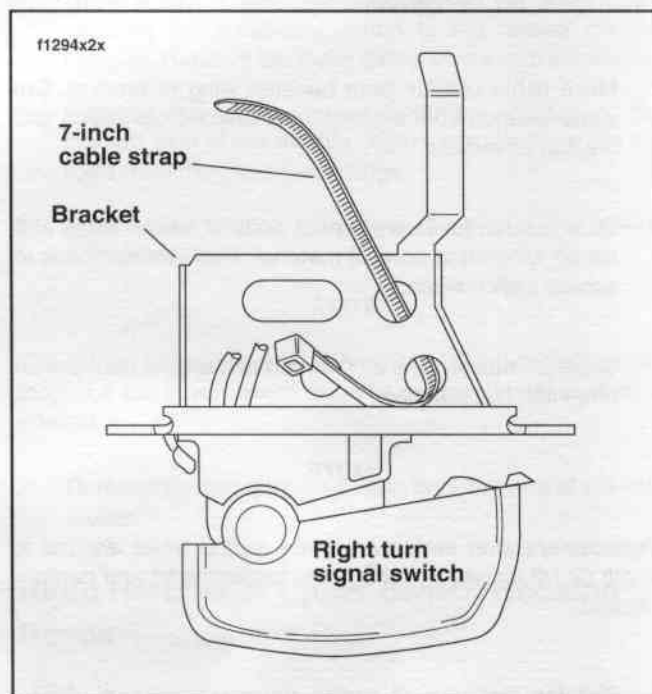

Figure 8-71. Insert Cable Strap in Switch Bracket
1. See Figure 8-71. Insert tapered end of new 7 inch cable strap into round hole in turn signal switch bracket and then feed back through using the adjacent hole. Reserve the oblong hole for the bracket screw.